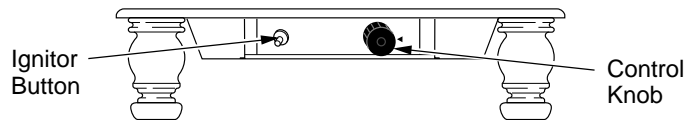

Figure 21 - Control Knob and Ignitor Button Location
4. Wait five (5) minutes to clear out any gas. Then smell for gas, including near the floor. If you smell gas, **STOP!** Follow "B" in the safety information, above. If you don't smell gas, go to the next step.
5. Turn control knob counterclockwise ↺ to the PILOT position. Press in control knob for five (5) seconds (see Figure 21).